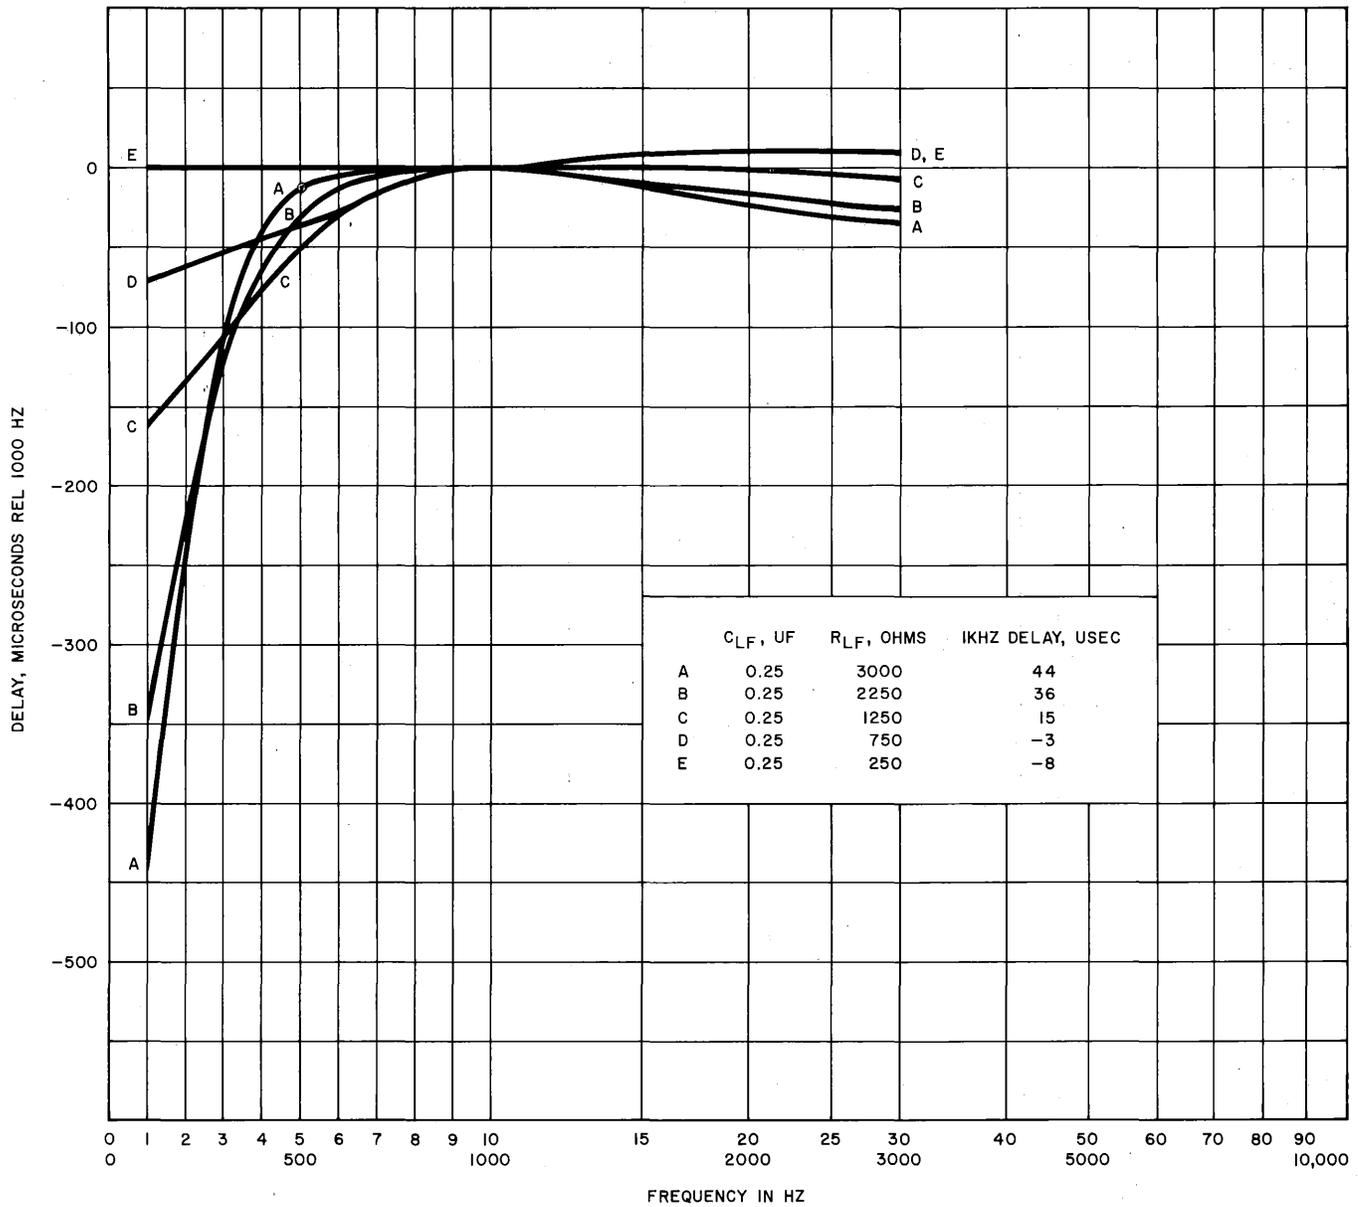
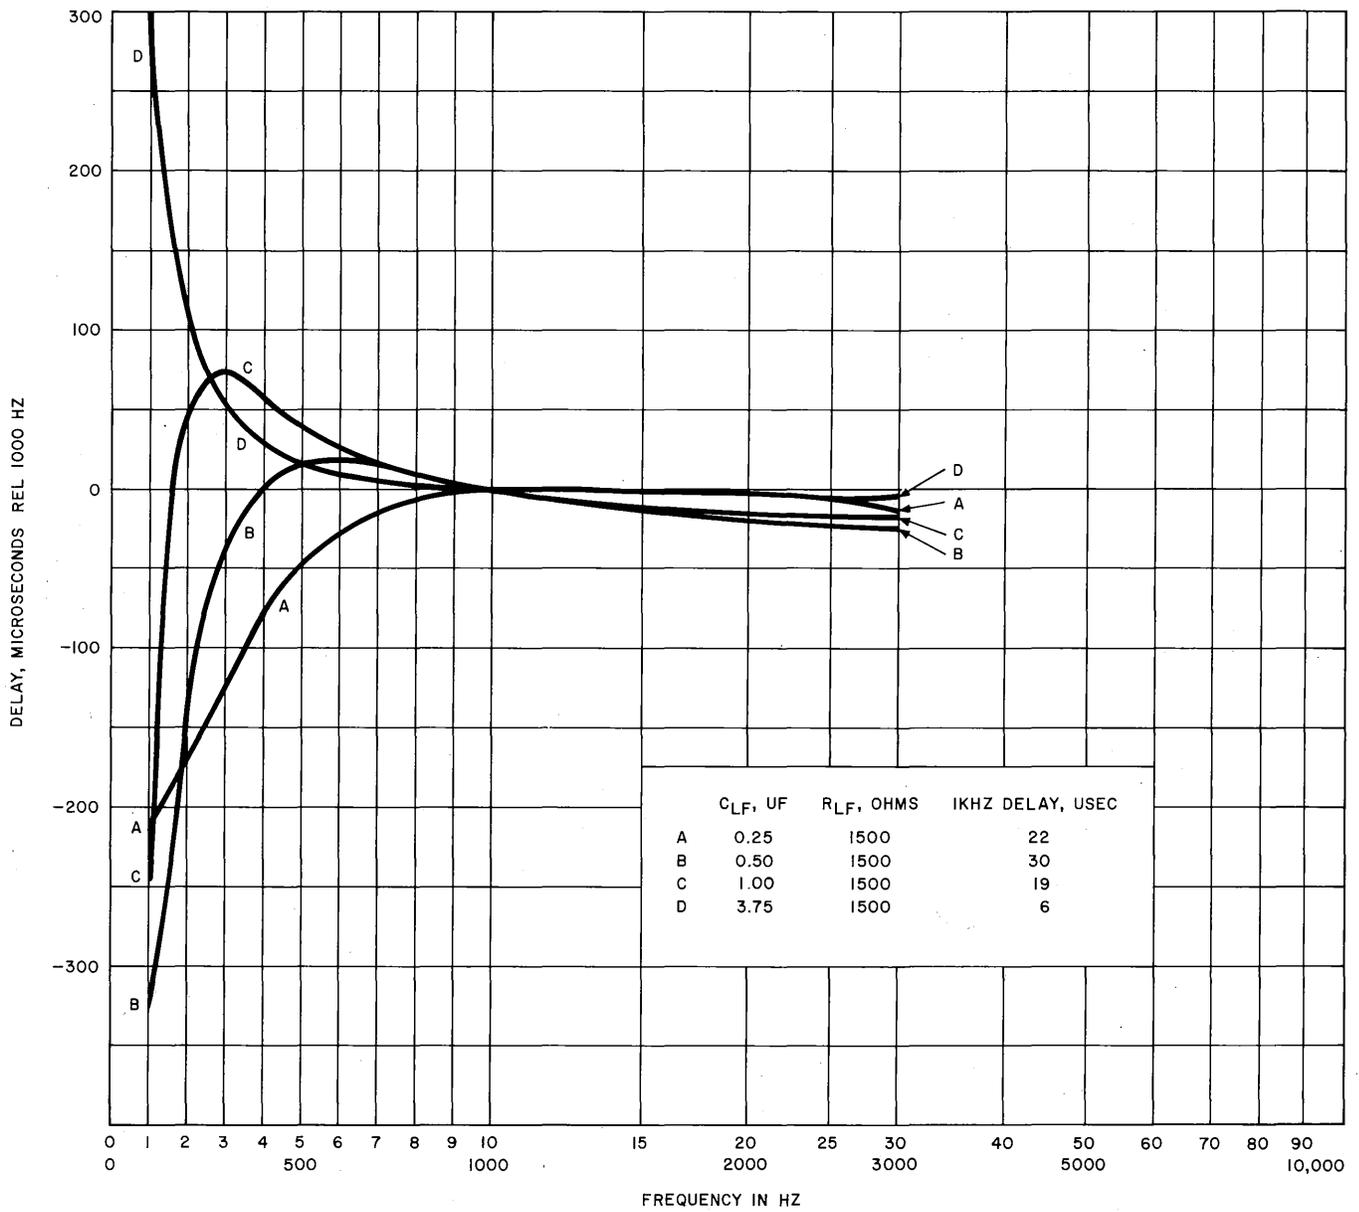

Fig. 7—4182C Network, Low-Frequency Section, Delay-Frequency Characteristics Between 600-Ohm Impedances— Varying R_{LF} For $C_{LF} = 0.25 \mu F$
Fig. 8—4182C Network, Low-Frequency Section, Delay-Frequency Characteristics Between 600-Ohm Impedances— Varying C_{LF} For $R_{LF} = 1500$ Ohms
4.06 While the series arm low-frequency components (R_{LF} and C_{LF}) provide compensation for amplitude distortion, they introduce delay distortion at the same time. Figures 7 and 8 illustrate typical delay-frequency characteristics obtained by various combinations of C_{LF} and R_{LF} . Figure 7 illustrates results of keeping C_{LF} constant at 0.25 μ F and varying R_{LF} with the HF section out of the circuit. Figure 8 shows the results of keeping R_{LF} constant at 1500 ohms and varying C_{LF} with the HF section out of the circuit.